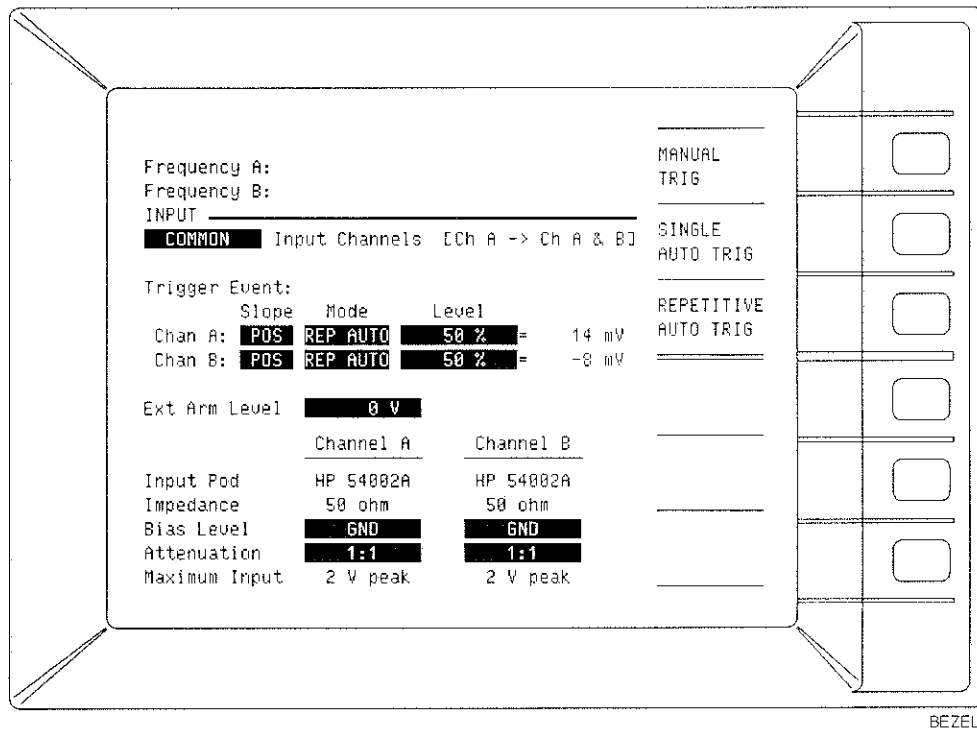

Figure 2-13. Auto Trigger INPUT Screen Display
- D. Press the **REPETITIVE AUTO TRIG** softkey. (The HP 5371A front-panel CRT display should appear as in *Figure 2-13*.)